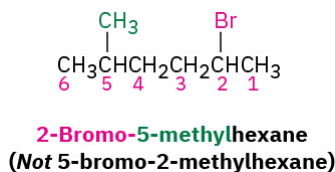

Figure 20.5h. An example of alphabetical precedence of 2-Bromo-5-methylhexane (credit: Organic Chemistry \(OpenStax\), CC BY-NC-SA 4.0).
4. If the parent chain can be properly numbered from either end by step 2, begin at the end nearer the substituent that has alphabetical precedence. Figure 20.5h. shows an example of alphabetical precedence.